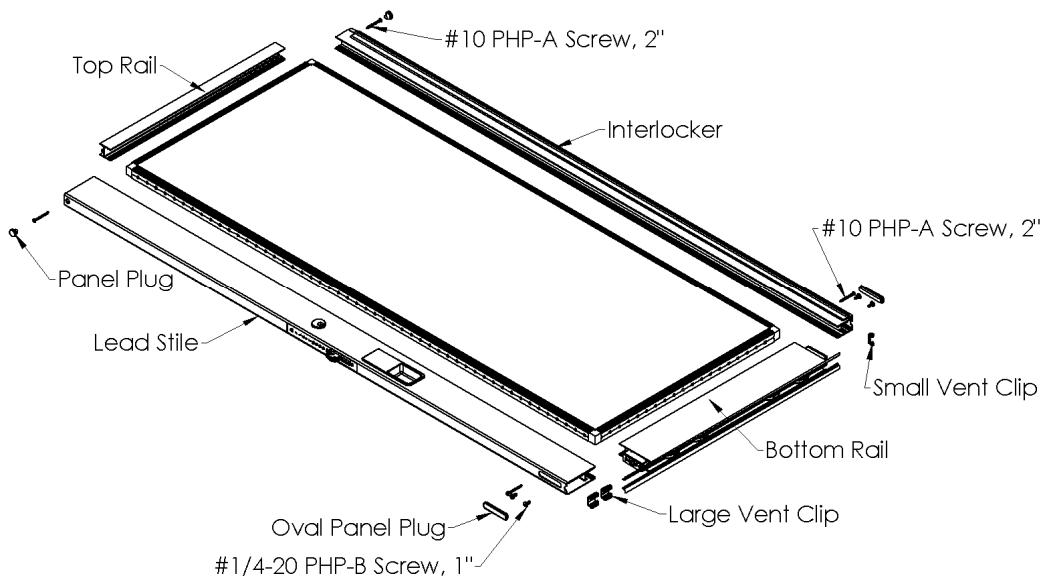

Figure 2:
5. Apply a bead of sealant that is compatible with the insulated glass seal to all four exterior corners as shown in Figure 2, Detail A.
5. Secure the stiles to the rails with (4) #10 x 2" pan head screws (Figures 2). Add wax to the ends of all fasteners to reduce the drive torque required for installation.
6. Install (2) 1/4-20 UNC x 1/2" long pan head screws to bottom of interlocker stile or lead stile. Screws attached vertical rails to Roller Housing (Figure 2).